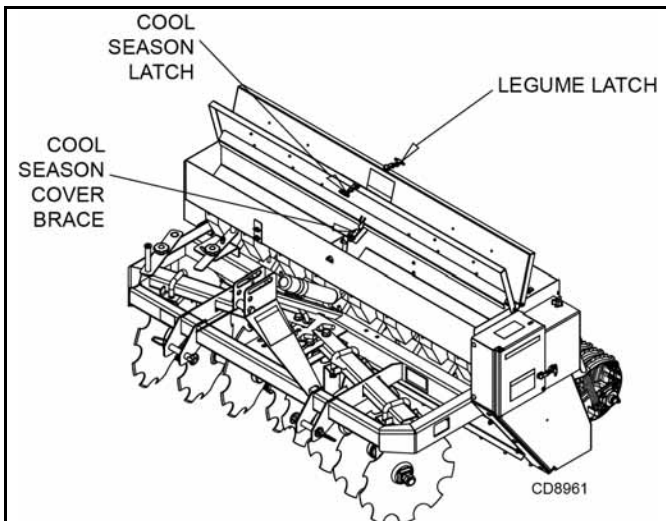

Figure 16. Seed Box Cover and Brace
2. Open the seed box cover and rotate the brace to hold the cover up while filling the seed box. Place brace point in the covers spill guard notch. See Figure 16.